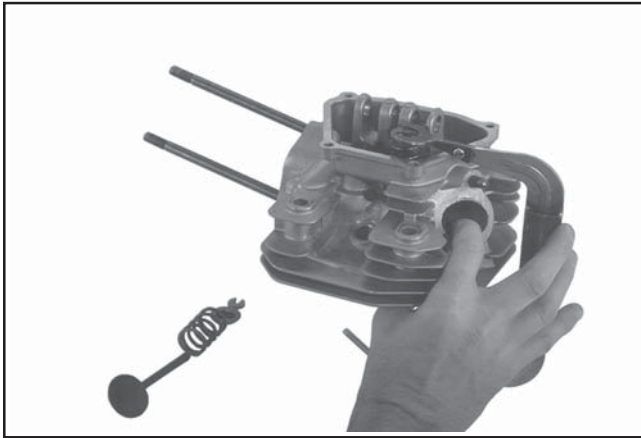

Figure 9-43. Disassembling Valve Assemblies.
3. Using a valve spring compressor, remove the valves by compressing the valve springs and removing the keepers. See Figure 9-43.